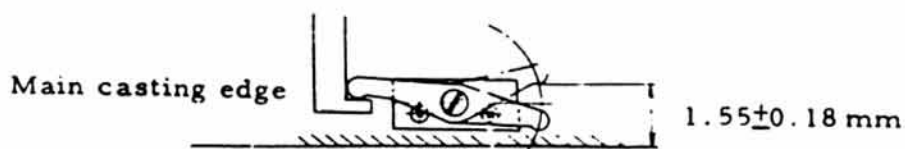

Fig. 20
(1) For mounting of the Lever, see Fig. 20.
(2) The Shutter must be released within A in Fig. 20. For adjustment, choose a suitable Shutter Release Lever.